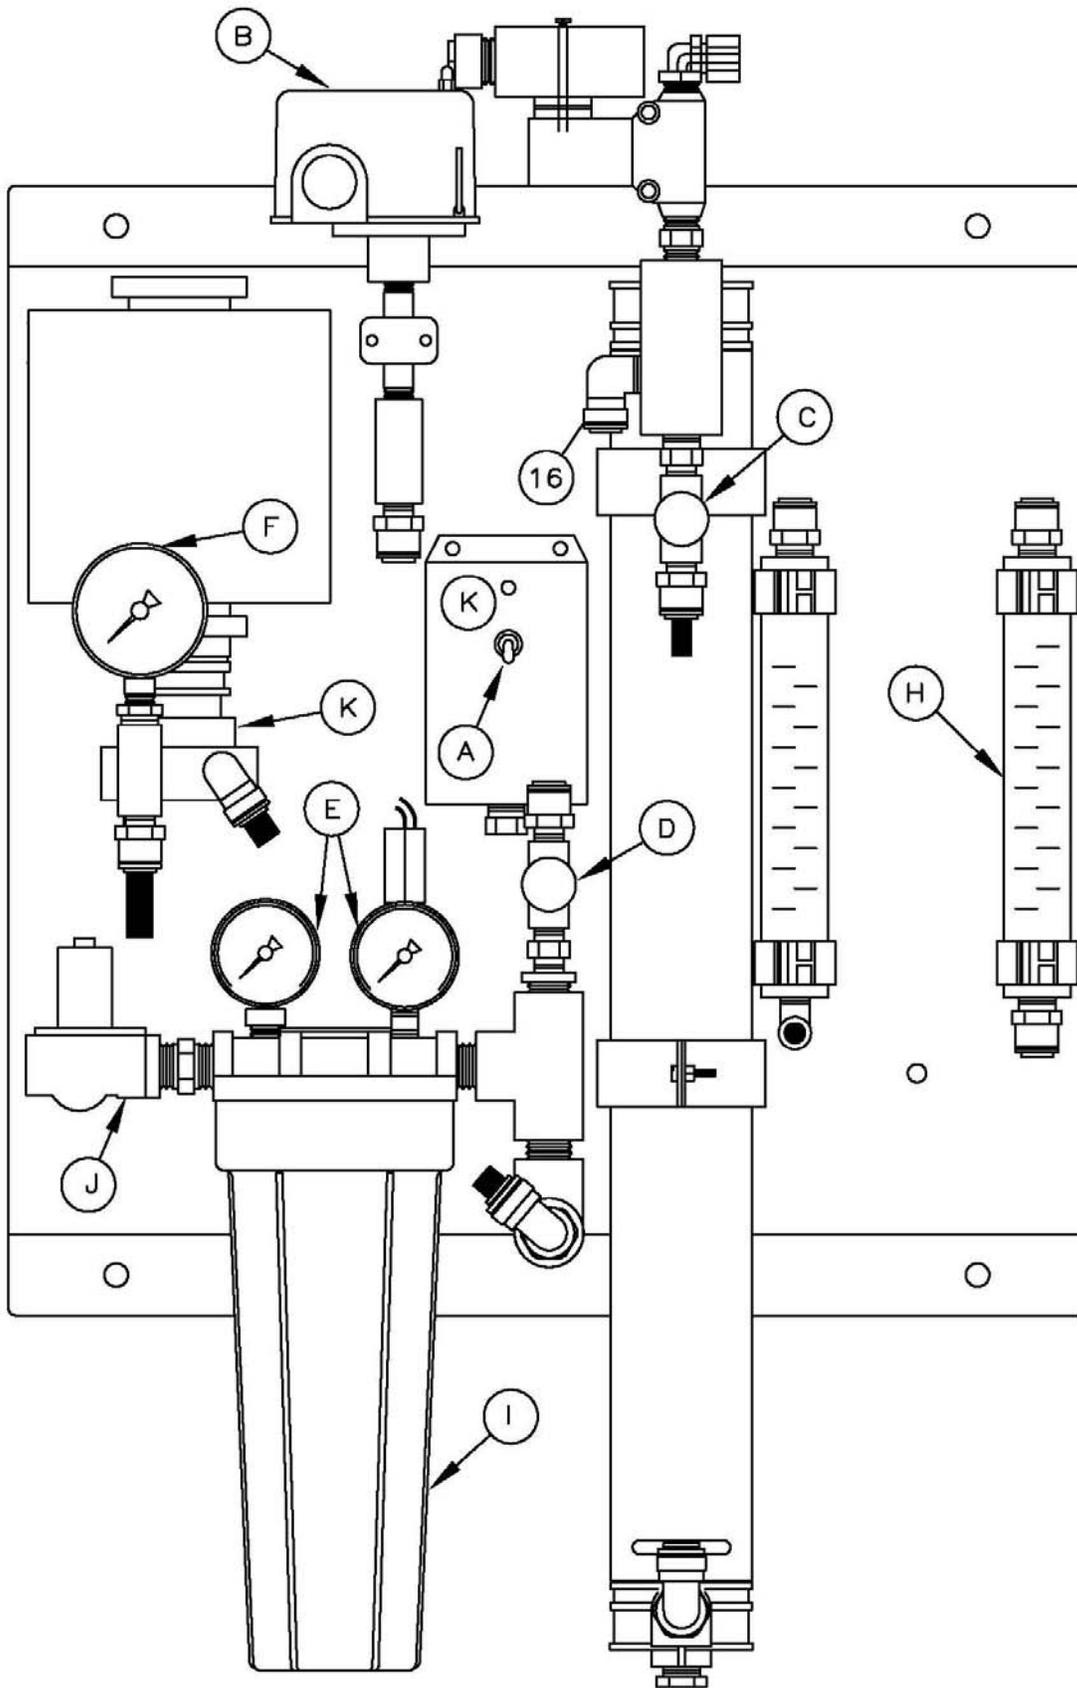

Figure 1
I. CONTROLS, INDICATORS, and COMPONENTS (see figure 1)